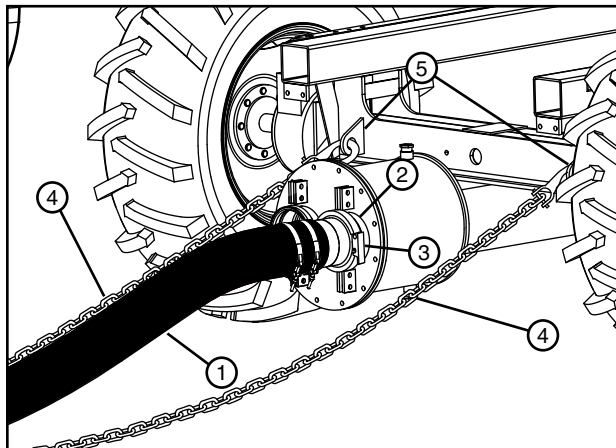

Figure 54-1 1. Soft Hose 2. Center Inlet 3. Circle Lock Ring 4. Chain 5. Anchor Bracket * Double Inlet Shown
3. Connect the inlet end of hose to the center inlet with circle lock ring. Attach chains from the soft hose/poly hose connection to the anchor bracket on each side of cart. See Figure 54-1.